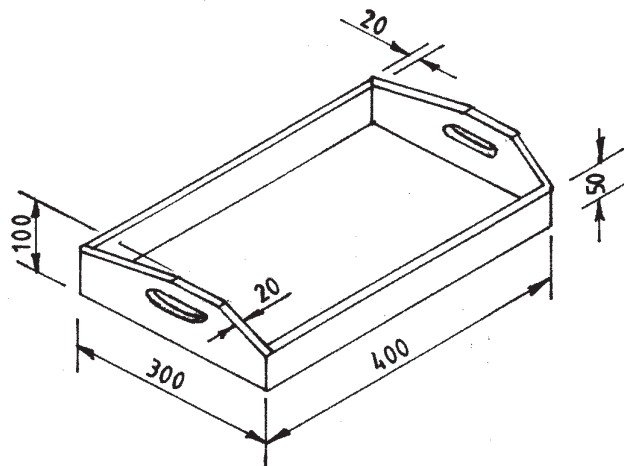

Figure 4
Figure 4 shows a wooden tray made of cypress and a 3mm thick plywood bottom.
- (c) Figure 4 shows a wooden tray made of cypress and a 3 mm thick plywood bottom.